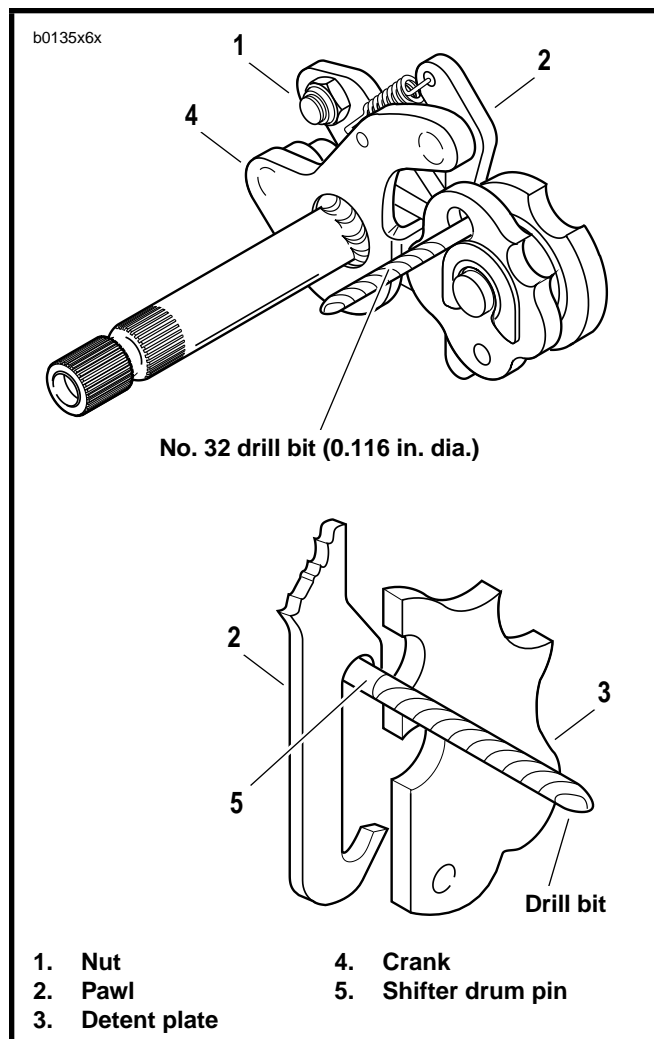

Figure 6-44. Shifter Shaft Assembly Alignment
3. Lift pawl (5) over drum pins, and place shifter shaft assembly (6) on studs at transmission case. Loosely install a washer (11) and locknut (3) on each stud.
4. Attach the loop of spring (1) over and into groove in post (2).
5. Place detent plate (9) over drum pins. Rotate plate until blind holes in plate align with pins in end of drum shaft. Install **new** retaining ring (10) using SHIFT DRUM RETAINING RING INSTALLER \(Part No. HD-39151\). Verify that retaining ring is fully engaged with drum groove.
6. See Figure 6-44. Place transmission in third gear. Place a No. 32 drill bit (0.116 in. dia.) through hole in detent plate (3), and between pawl (2) and drive pin at end of shifter drum shaft. Push down top of crank (4) to remove all clearance between pawl and drill bit; this will correctly align pawl to shift drum pins (do not push down with too great a force, as this might cause the shifter drum to rotate). With bit in place, tighten shifter shaft assembly bottom nut (1) first to 90-110 **in-lbs** (10.2-12.4 Nm). Then, tighten shifter shaft assembly top nut (1) to the same torque. **Remove drill bit.**